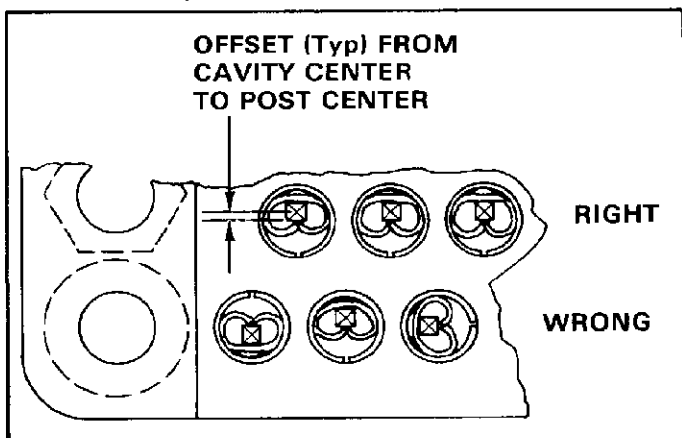

Fig. 2
3. CONTACT INSERTION (Figures 2 and 3)
Because the centerline of the post is offset from the center of the cavity, the contacts must all be inserted with the same orientation, particularly if the termination is to be made by semi-automatic or automatic machine, or if the posts are to be inserted into a printed circuit board or panel. In other words, the seam of the stabilizer ring of standard contacts (or fins of special contacts) must point in the same direction for all contacts. In some board-mounted applications, the posts will also need to be oriented in relation to the mounting holes of the connector. See Figure 2.
1. Orient the contact with the connector cavity as shown in Figure 2 and partially insert it into the cavity.